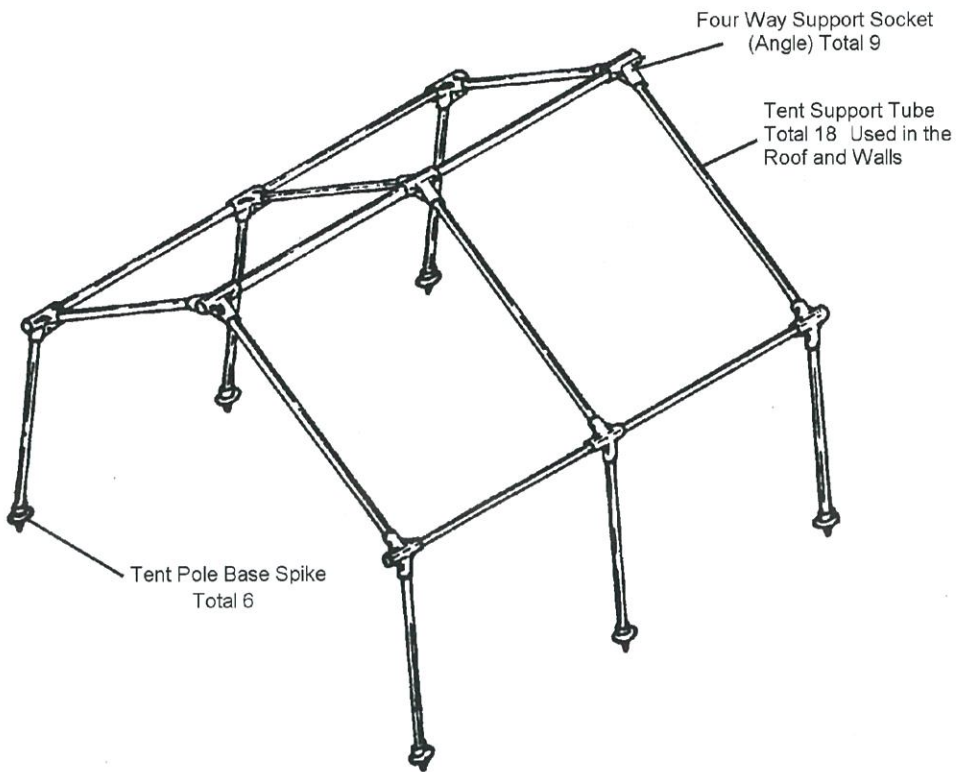

Figure 5-6 — Base Tent Frame
13. The base tent frame is shown in Fig 5-6.